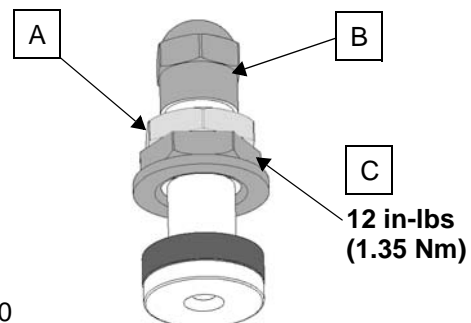

Fig. 10
4. Refer to Fig. 10. On Type 2 valve stems (with no holding slot) tighten upper nut (A) to stem cap (B).
5. Hold nut (A) to prevent valve stem rotation, and torque lower stem nut (C) to 12 in-lbs (1.35 Nm) using an open end torque wrench.